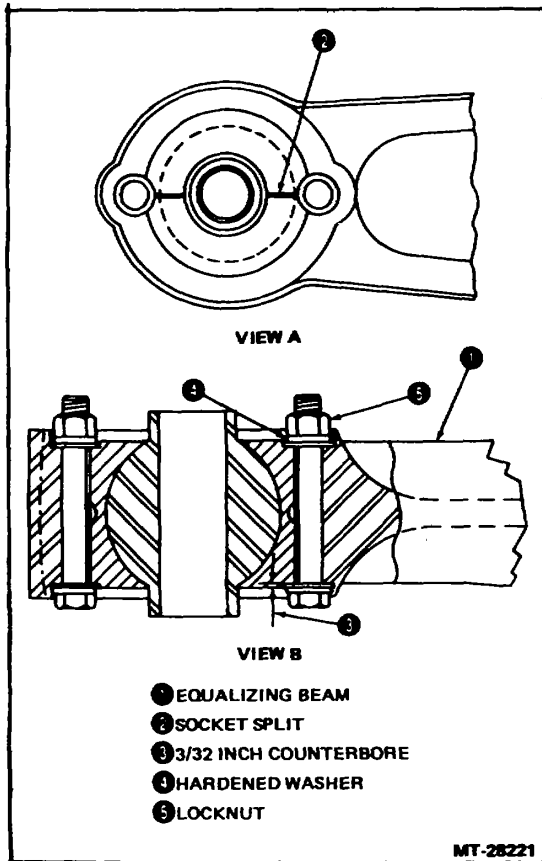

Figure 9 - Ball and Socket Beam Ford
- Center sockets in beam end bore with socket split as shown in View A, Figure 9.
- Insert four 25.4mm (1") hardened flat washers top and bottom on both ends of the beam as shown in View B, Figure 9.